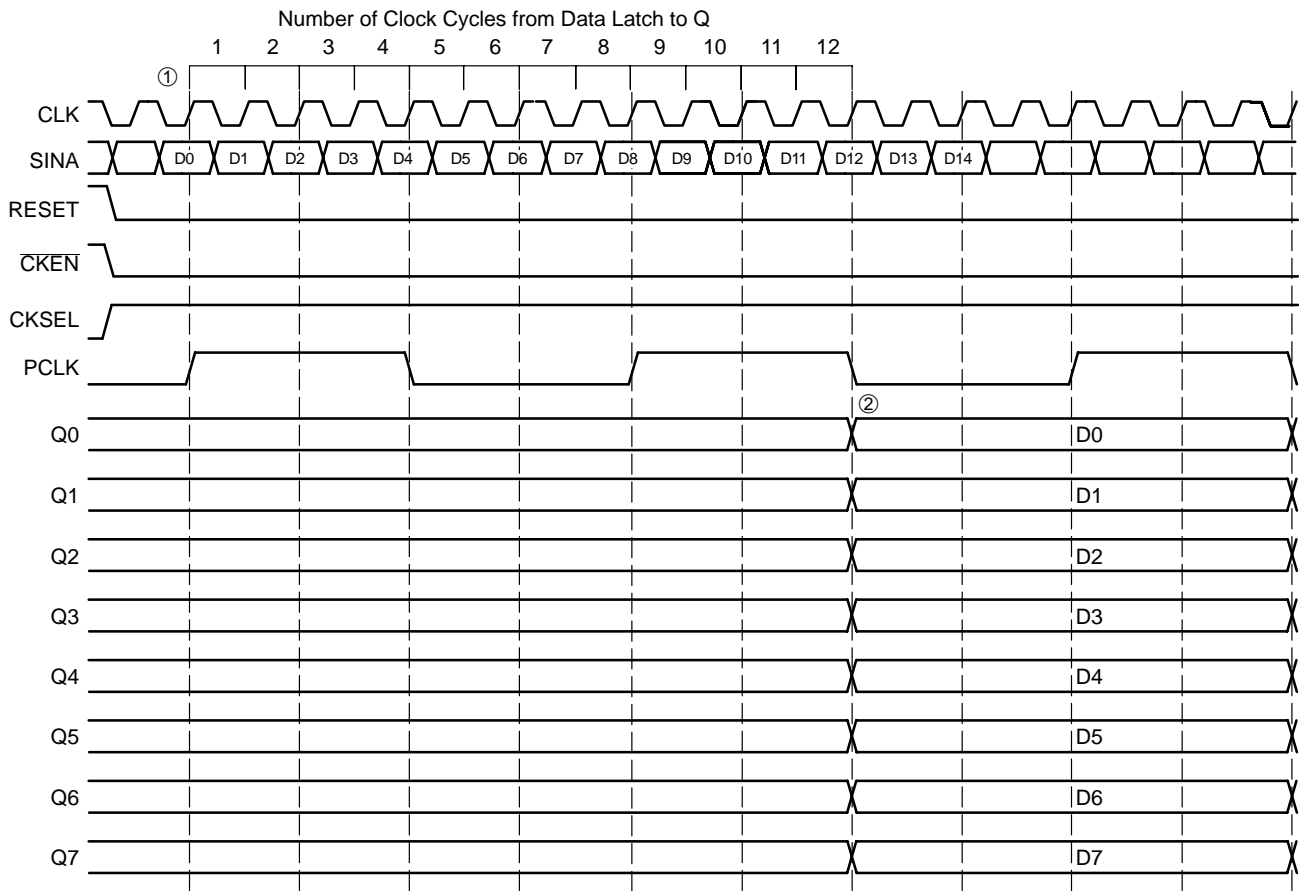

Figure 8. Timing Diagram A. 1:8 Serial to Parallel Conversion with CKSEL HIGH
the serial data is latched^① to when the data is seen on the parallel output^② is 12 clock cycles (see Figure 8).